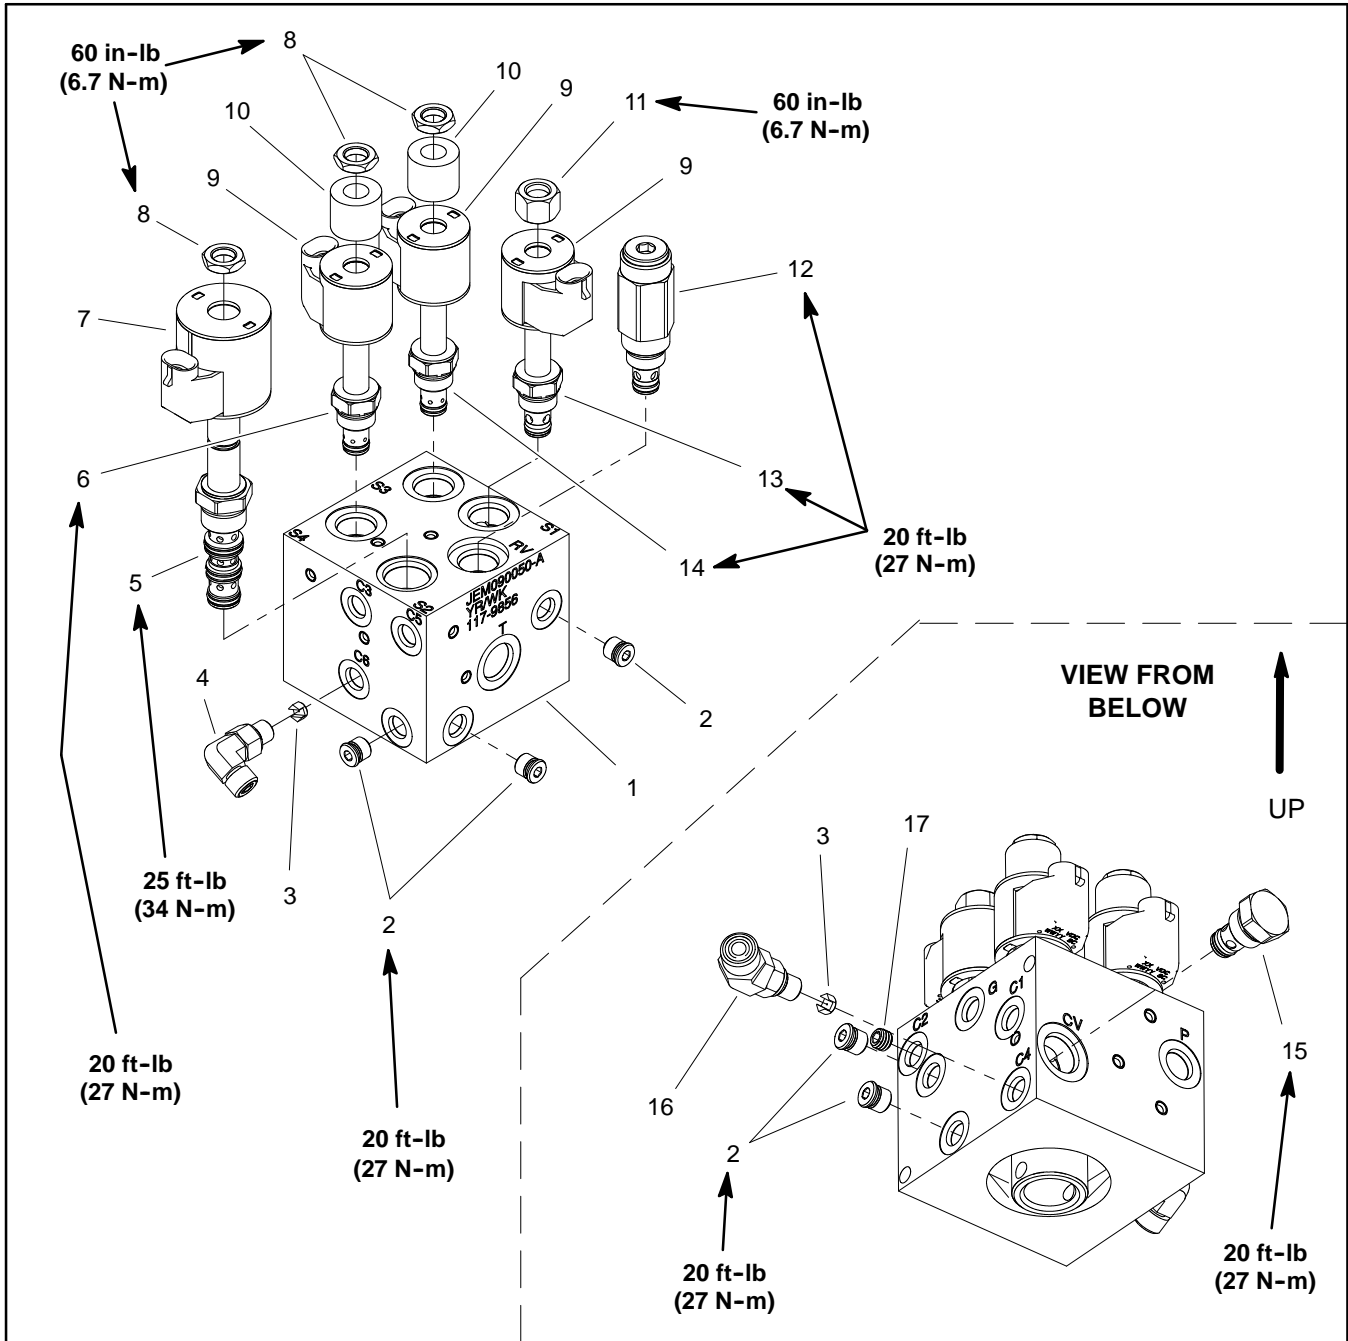

Figure 71
**NOTE:** The hydraulic manifold shown in Figure 71 uses several zero leak plugs. These plugs have a tapered sealing surface on the plug head that is designed to resist vibration induced plug loosening. The zero leak plugs also have an O-ring to provide a secondary seal. If zero leak plug removal is necessary, lightly rap the plug head using a punch and hammer before using an allen wrench to remove the plug: the impact will allow plug removal with less chance of damage to the socket head of the plug. When installing plugs into the manifold, torque plugs to the values identified in Figure 71.
For cartridge valve service procedures, see Control Manifold Cartridge Valve Service in this section. Refer to Figure 71 for lift manifold cartridge valve and plug installation torque.